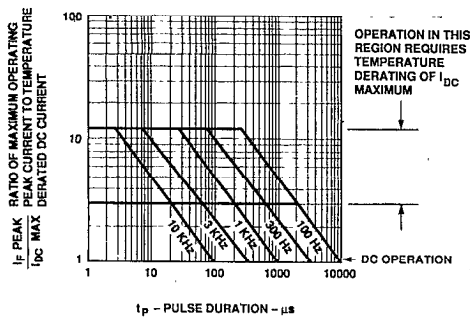

Figure 9. Allowable Peak Current vs. Pulse Duration - Green Series.
9. See Figure 9 to establish pulsed conditions.